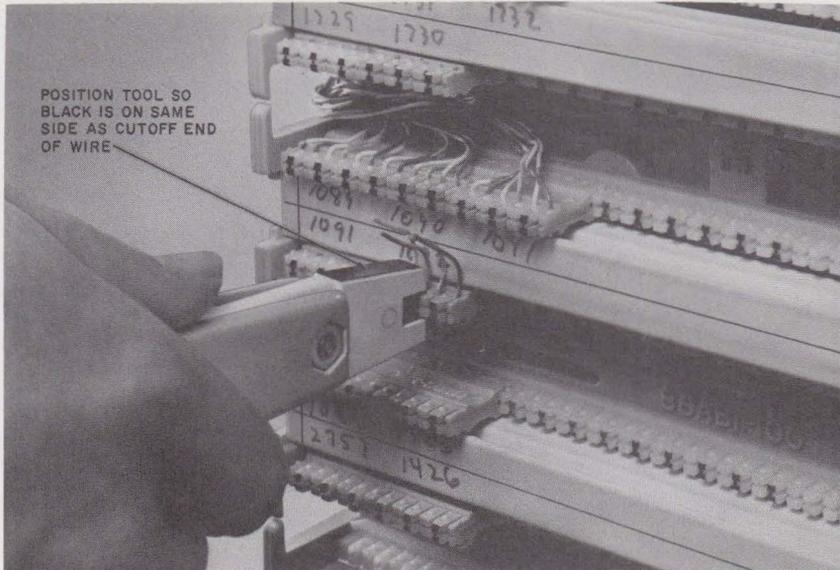

Fig. 22—Terminating Cross-Connect Wire
3.20 Using the 788D3 tool with the head properly positioned, seat and cut off the excess wire as shown in Fig. 22.